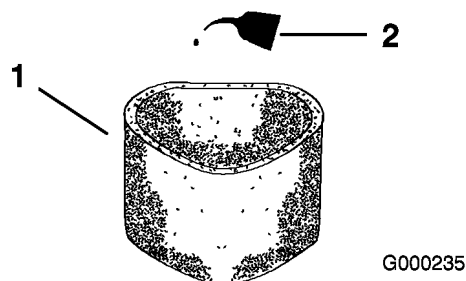

Figure 33
1. Lightly tap the element on a flat surface to remove dust and dirt (Figure 33).